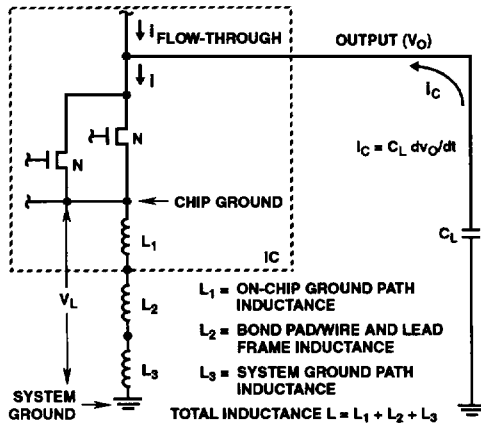

FIGURE 12. INDUCTANCES AND TRANSIENT CURRENTS RELATED TO GROUND BOUNCE
Figure 12 shows the case of an FCT output switching from high to low. Transient current  $i$  flows through the total intrinsic inductance to system ground, causing a peak voltage differential ( $V_{LMAX}$ ) between the on-chip ground and the system ground.
1. Layout techniques are used to reduce on-chip inductance in the  $V_{CC}$  and ground paths, especially for the segments that are common to all outputs. (See L1 in Figure 12).
2. Multiple bond-pads and bond-wires are used for  $V_{CC}$  and GND to reduce the inductance, in those paths, between the chip and the lead. (See L2 in Figure 12).